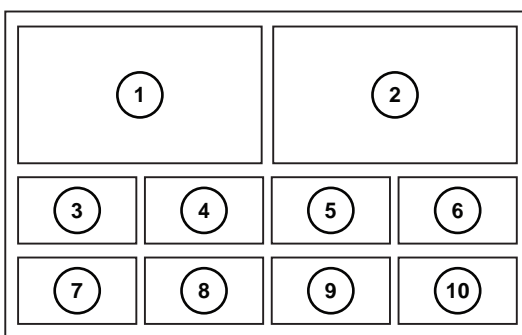

Figure 2.5 MultiViewer Layout
- Use the **Box** knob to select a box on the MultiViewer display. Refer to Figure 2.5 for the locations of the boxes.